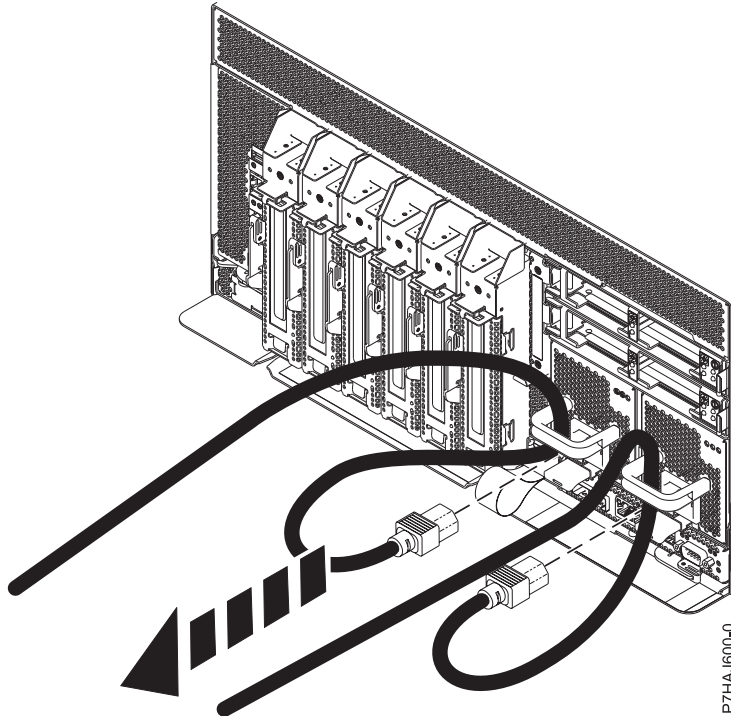

Figure 13. Removing the power cords
3. Disconnect the power cords from the system unit as shown in Figure 13 on page 27.